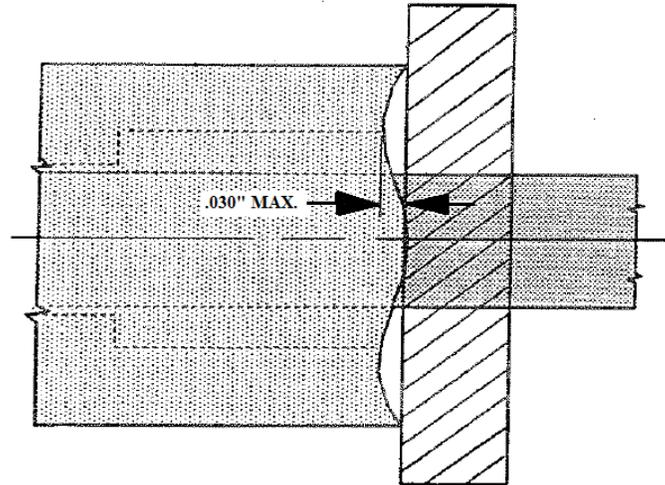

Figure 4
7. Check stuffing box face waviness. Maximum allowed is 0.30" TIR (Figure 4.)